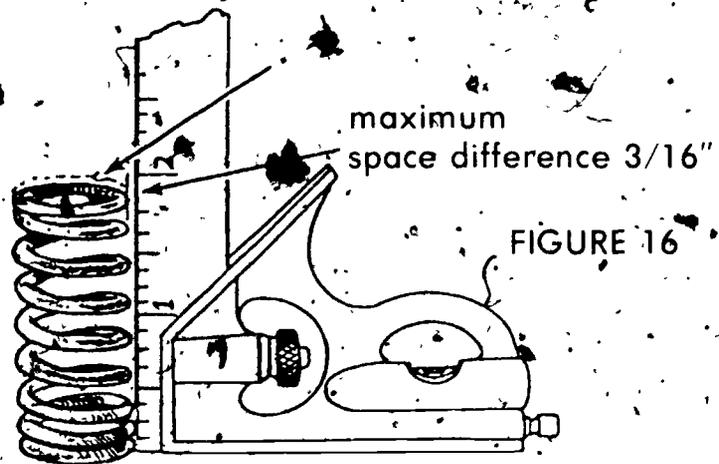

FIGURE 16
5. Check spring for straightness (Figure 16)